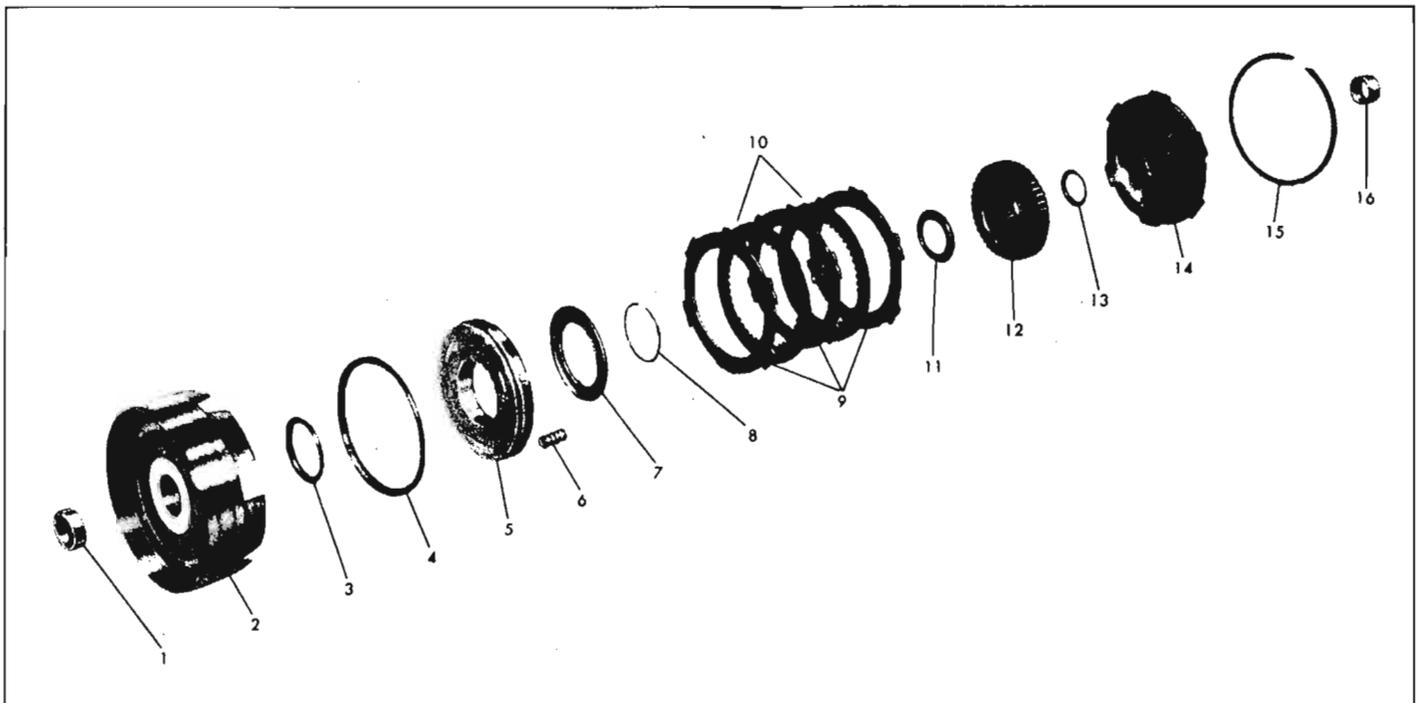

Fig. 6E-35—Clutch Drum—Exploded View
1. Remove retainer ring (15) securing the low sun gear and clutch flange assembly (14) to the clutch drum (2).
2. Remove the low sun gear and clutch flange (14) and hub rear thrust washer (13).
3. Lift out clutch hub (12), then remove the nested drive and reaction plates (9 and 10) and the hub front thrust washer (11).
4. To remove the spring retainer (7), place the clutch drum in a press and compress the springs using J-7782 adapter ring and J-5133 as shown (fig. 6E-38). Then remove snap ring (8) with Truarc pliers.
5. Carefully release pressure on press, then remove spring retainer (7) and return springs (6).
6. To remove clutch piston (5) pull upward with a